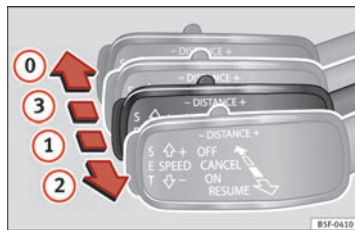

Fig. 135 On the left of the steering column: third lever for operating the Adaptive Cruise Control.
- Pull the lever to position ① ⇒ Fig. 135. **ACC standby** will be shown on the instrument panel display.